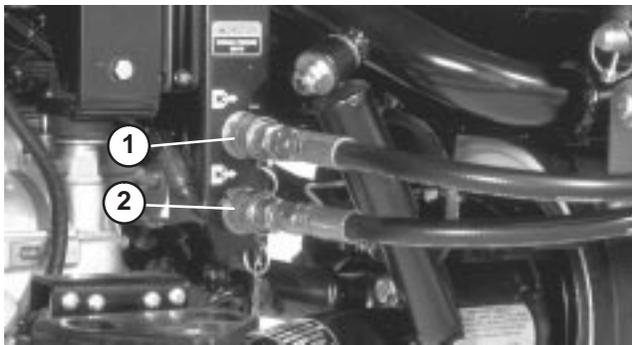

Figure 14
3. Clean any dirt from topdresser quick couplers (Fig. 14) before connecting. Dirty couplers can introduce contamination to the system. After cleaning, attach both quick couplers to the Workman. The hoses are marked "A" and "B", match them to the quick couplers when installing. Assure both quick couplers are full engaged.
Note: Couplers shown in figure 14 are from a vehicle with a serial numbers prior to 239999999.